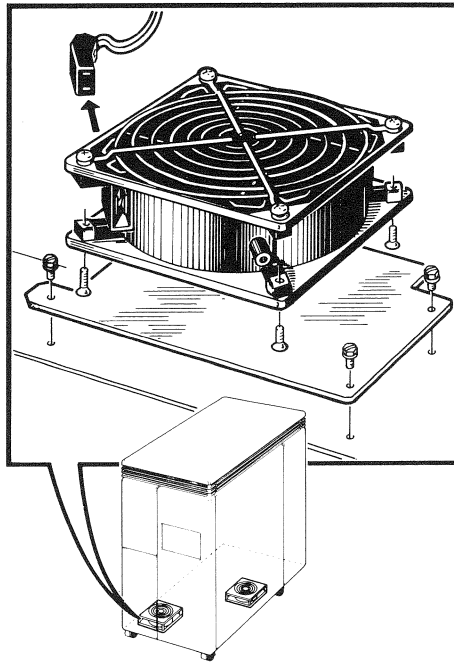

Figure 10-15 Mass Storage Fan Removal
3. Remove the three screws that connect the fan's metal base plate to the enclosure frame (Figure 10-15).